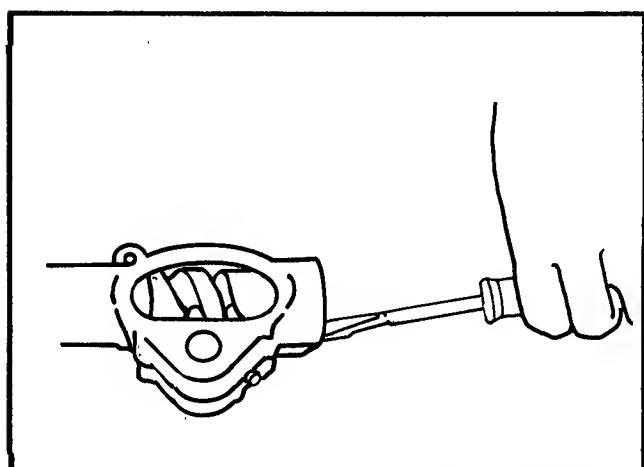

FIG. 2.6 -- SHAFT PRE-LOAD SETTING
3. Install adjusting nut and tighten until steering shaft has a slight bind when turned, Fig. 2.6. At this point adjust nut until shaft has no end-play with no binding when turned. Secure adjusting nut with cotter key.